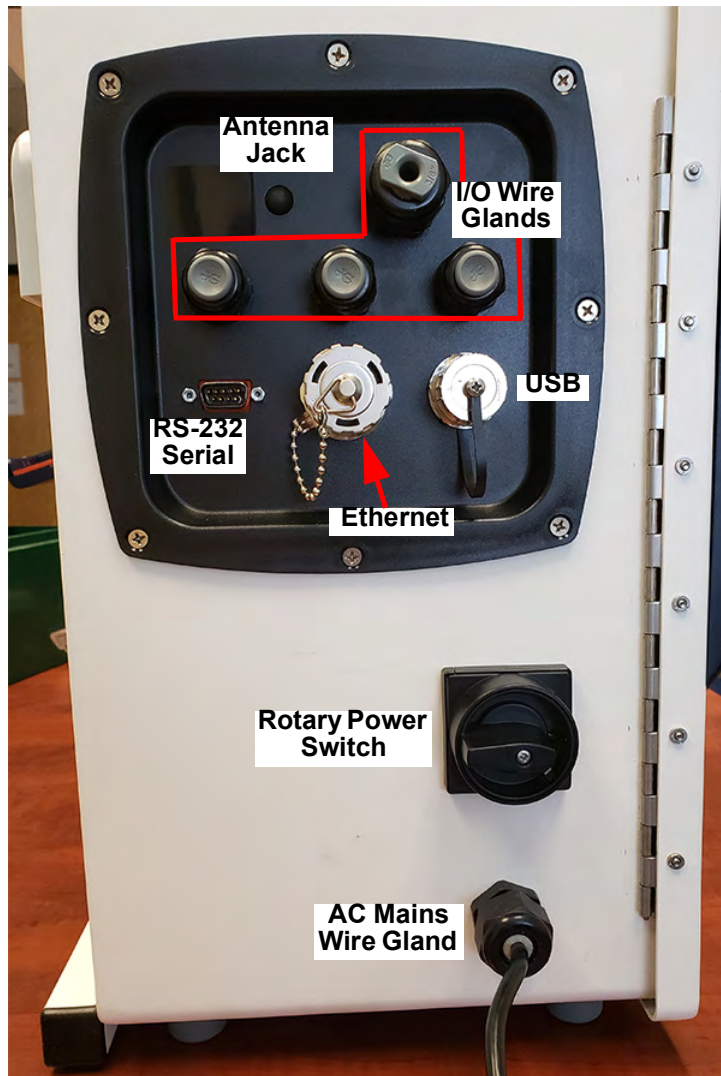
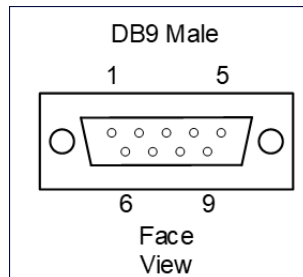

Figure 8: Input and Output Connections
Figure 9: Asynchronous Serial Port (RS-232)
2. Turn the rotary power switch (located on the left outside panel of the Analyzer; see Figure 8 on page 87) to the *On* position to initiate power in the Analyzer. The touchscreen illuminates and displays the splash screen during the system initialization process.
To install a USB memory device, insert it into the USB port. (See Figure 8: Input and Output Connections on page 87.) The device must be oriented properly to slide into the port.
The serial connection is provided as an optional means of capturing data from the Analyzer. Serial cables are available at many computer and office supply retail stores. Refer to Figure 8: Input and Output Connections on page 87, and "Figure 9: Asynchronous Serial Port \(RS-232\)" on page 88, as needed.
NOTE: For long distance connections (up to 1,000 feet or 305 meters), SUEZ recommends use of either a RS-232 current loop converter or an RS-422 converter. Optionally, an Ethernet connection is available. See Figure 8: Input and Output Connections on page 87.
Attach one end of an Ethernet cable to the Ethernet port located on the left outside panel of the Analyzer (Figure 8: Input and Output Connections). Attach the other end of the cable to an Ethernet port on the network, to a computer, or to a printer. After installing the Ethernet cable, configure Ethernet in the Analyzer's firmware, "Configuring an Ethernet Connection" on page 165. To set up the printer for use with the Analyzer, see "Enabling a PDF Printer" on page 101. To assist in using the Modbus communications with the Analyzer, refer to Appendix E. "Modbus with the Analyzer."